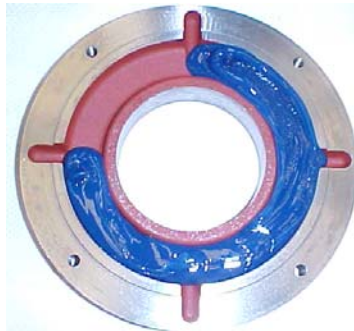

Figure 7.3: Outer bearing cap
- Fill up to ¾ of the inner and outer bearing cap deposits with the recommended grease (Figure 7.3) and lubricate the rolling bearing with enough grease before assembling it;
When the bearing is opened, inject the new grease through the grease nipple to expel the old grease found in the grease inlet tube, and apply the new grease in the rolling bearing, to the inner and outer rings, filling ¾ of the empty spaces, as shown in Figure 7.3. In case of double bearings (ball bearing + roller bearing), also fill ¾ of the empty spaces between the intermediate rings;